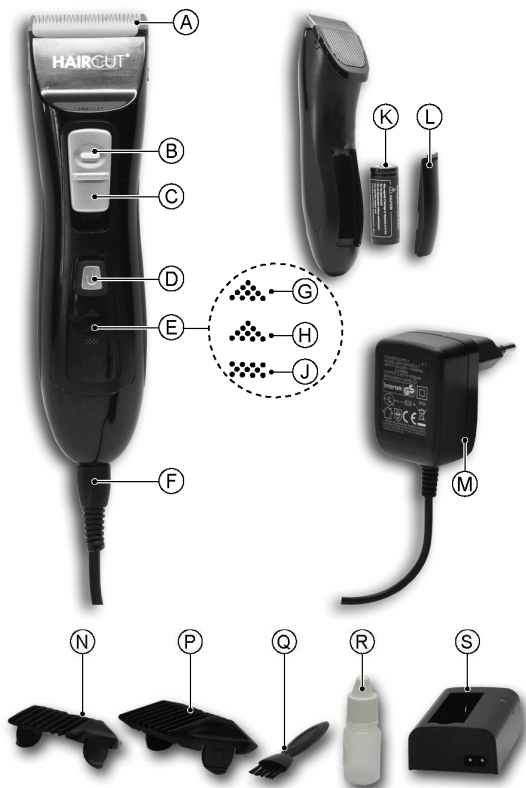

Figure 1: Clipper parts and accessories.
1. Switch the clippers off by pressing the *On/Off* button (Figure 1, D).
3. Insert the power pack (Figure 1, M) in the mains power socket.
4. The red indicator light (Figure 1, J) comes on steadily during the charging period. Indicator lights (Figure 1, G and H) come on to show the battery charge level remaining to be reached.
5. Both indicator lights (Figure 1, G et J) come on steadily when the battery charge cycle has been completed. The autonomy time is then 90 minutes.
1. Switch the clippers off by pressing the On/Off button (Figure 1, D).
4. Insert the power pack (Figure 1, M) in the mains power socket.
Switch the clippers on by pressing the *On/Off* button (Figure 1, E). With a new, fully charged battery, the clippers can be used without the power lead for about 90 minutes. The indicator lights showing the remaining battery charge level come on; see Figure 1, refs. G and H for details.
Switch the clippers on by pressing the *On/Off* button (Figure 1, E). The indicator lights showing the remaining battery charge level come on; see Figure 1, refs. G and H for details.